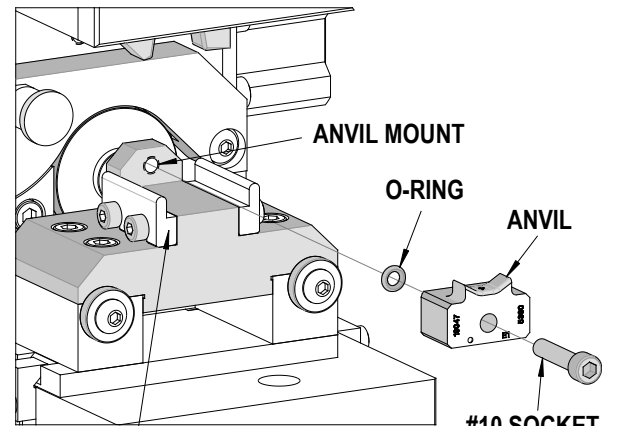

Figure 2-10
- To remove the anvils, use a 5/32" hex wrench to remove the #10 socket head screw holding the anvils to the anvil mount. See Figure 2-10.